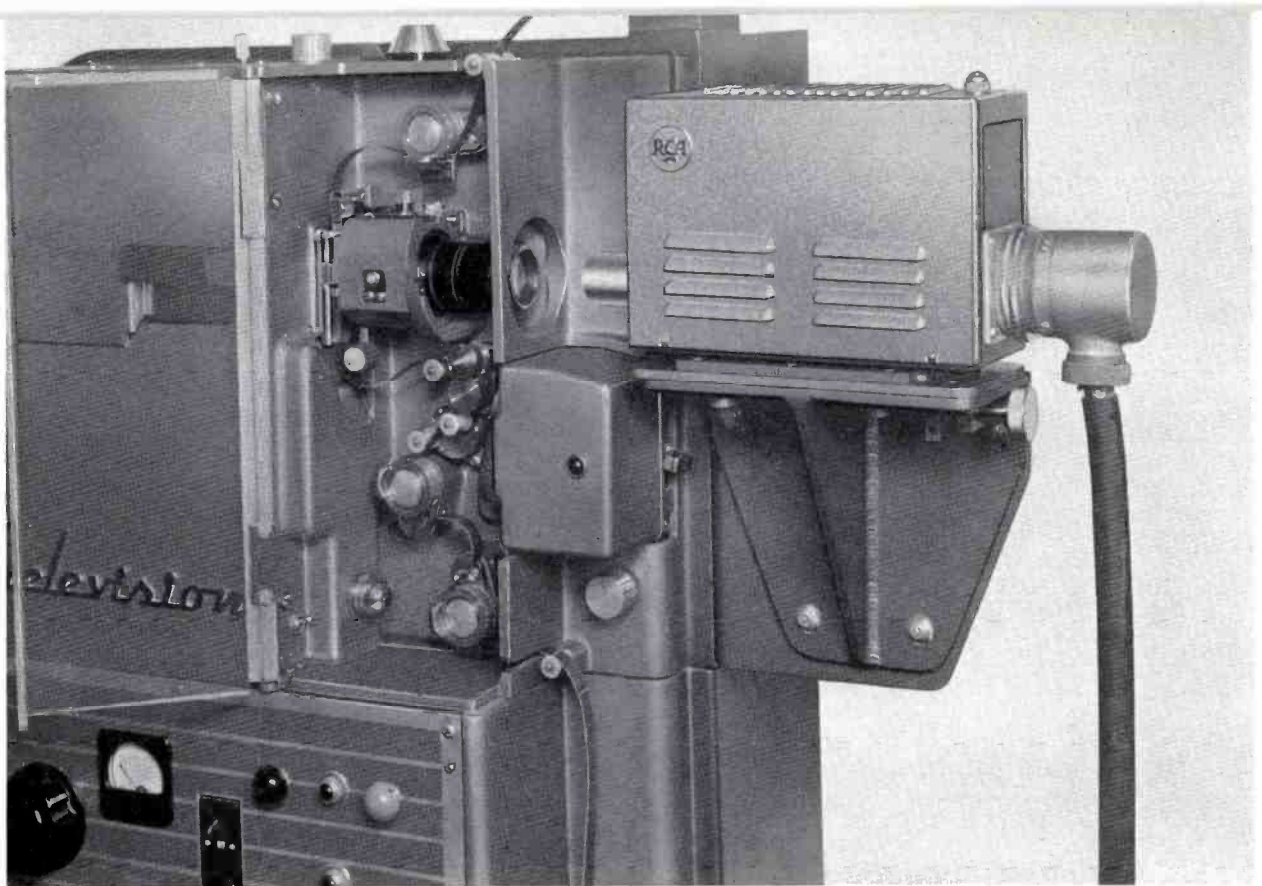

FIG. 1. View of the Vidicon Film Camera shown coupled to an RCA TP-6A Professional 16mm Television Projector.
program of evaluating many hitherto unexplored methods of film reproduction. Our investigations showed that the Vidicon pickup tube offers the greatest possibility for realizing these new objectives. Work on the Vidicon film camera during the past two years has convinced us that it comes closest to meeting the requirements for an ideal film camera. Figs. 1 and 2 show the Vidicon in use—(1) mounted directly on a projector and (2) with a multiplexer.
service area. It is the purpose of this article to tell the story of this newest member of the RCA antenna family. (See Figs. 1 and 2.)